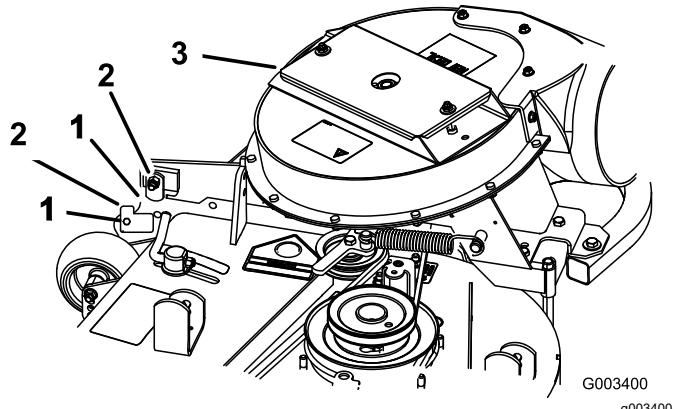

Figure 18
3. Close the blower assembly to see if the latches are adjusted correctly (Figure 18).